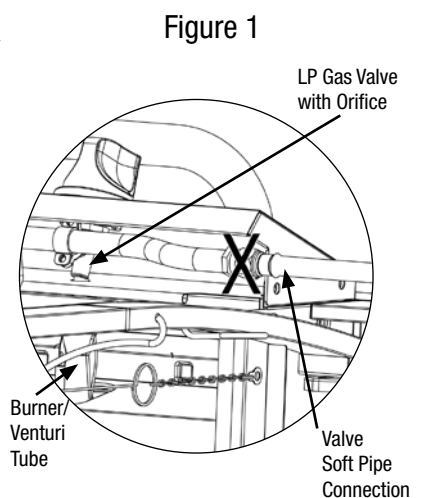

Figure 1
4. Please refer to diagram for proper installation (Figures 1).
5. Spoon several drops of solution, or use a squirt bottle, at all "X" locations (Figures 1 and 3).